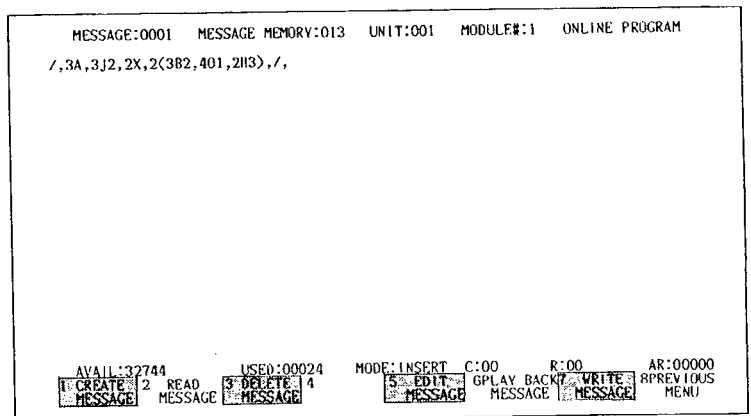

Fig. 7.96
4. Depressing **CANCEL** key calls up the display as shown in Fig. 7.96 again without executing anything. Restart the storing process by resetting the message No.